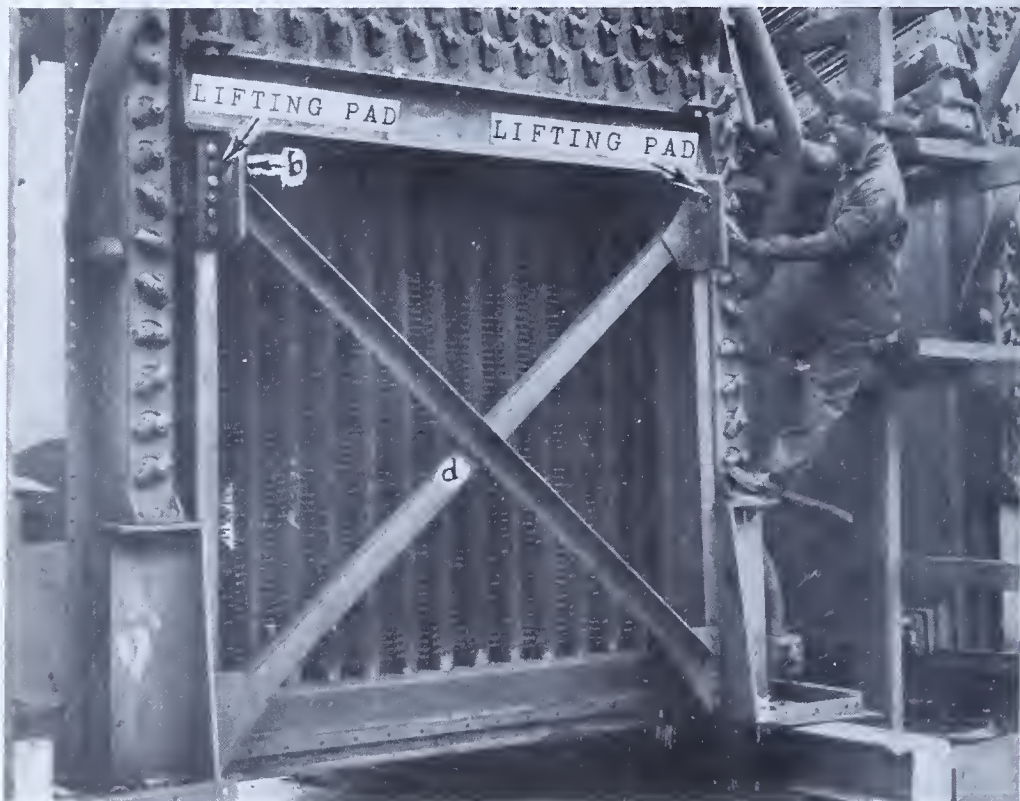

FIG. 536 — *Angle Braces*
The angle braces shown in Fig. 536 at *d* (pc. mk. UA) must be removed to permit the bricklayers to build the rear firebox wall and to allow the boilermakers to get the back plate into position to bolt fast.
1. Remove angle braces (pc. mk. UA)  $d$  shown in Fig. 536.
8. Obtain two pieces of angle 3" x 6" x 1", 13 3/4" long. See Fig. 536 at *b*.
10. Burn a hole 2 1/2" in diameter in the other leg of each angle according to the leader's instructions. See Fig. 536 at *b*.
11. With 3/4" bolts, 3 1/4" long, bolt the angles (one on each side) to the plates on the ends of the angle braces. See *e* and *f*, Drawing 539 and Fig. 536.
These angles are bolted in place to be used for lifting the boiler when complete. They are called lifting pads. See Fig. 536.